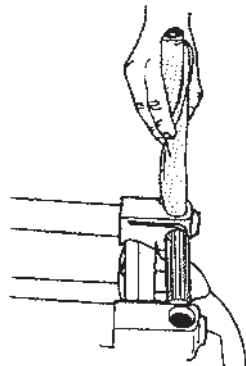

Figure B-33
- a. Do not wax the trunnions (148, 149) on the worktable. When you wax and buff the quill (59) do not leave any wax in the rack. If you do, the wax will mix with sawdust and impede the movement of parts.
16. After you apply wax to the mounting holes in the base arm on both ends, wrap a rag around a scrap of wood and buff out the wax thoroughly. See Figure B-33.